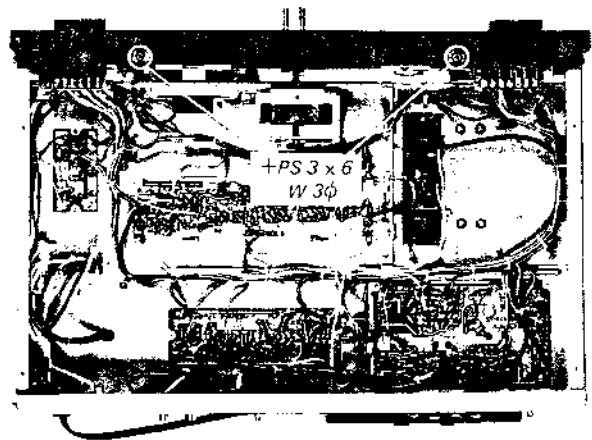

Fig. 2-4 Front panel removal (2)
- Turn the tuner over and remove the two screws (+PS 3 X 6) at the front bottom edge of the chassis as shown in Fig. 2-4.